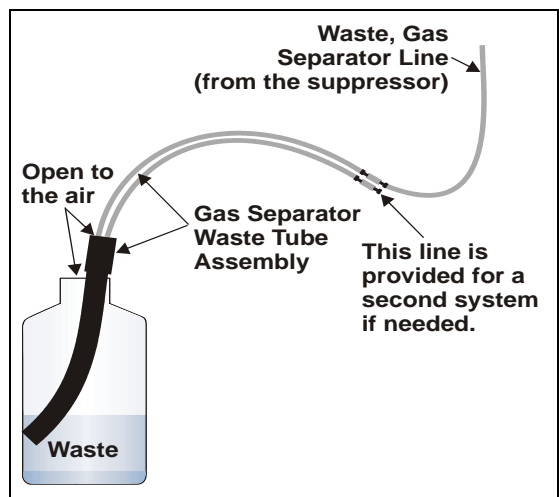

Figure B-24. Gas Separator Waste Tube Installation
2. Connect the **WASTE, GAS SEPARATOR** line from the suppressor to one of the 3-mm (1/8-in) ID white Teflon lines on the gas separator waste tube assembly (see Figure B-24).
**DO NOT CAP THE WASTE CONTAINER:** The ICS-2000, Atlas Electrolytic Suppressor, and Self-Regenerating Suppressor (SRS) use an electrolytic process that results in the production of small amounts of oxygen or hydrogen gas. To ensure that the gas is not trapped in a closed container and allowed to concentrate, install a 1.3-cm (0.52-in) ID black gas separator waste tube (P/N 045460) in an uncapped waste container. Connect the Waste, Gas Separator line to the waste tube (see Figure B-24).